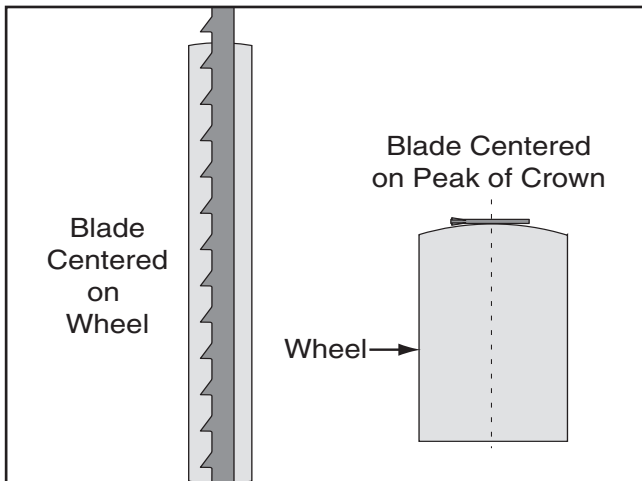

Figure 30. Center tracking profiles.
- Spin the upper wheel by hand at least three times and watch how the blade rides on the crown of the wheel. Refer to **Figure 30** for an illustration of this concept.